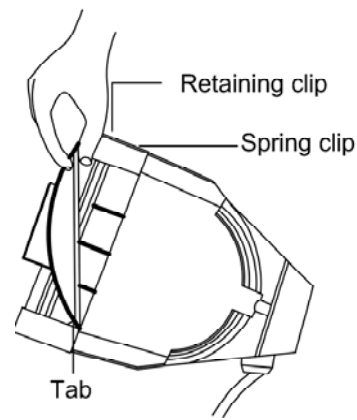

Fig. 6
4. Hold the lens by its edge and position it so, that the convex side faces the back of the fixture (Fig. 6).